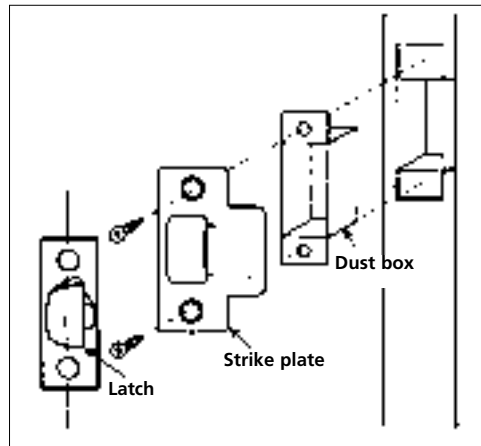

Figure 13
- 3) Place the strike plate on the dust box and, if necessary, draw a line around the strike and cut out enough material to make the strike plate flush with the door frame (see Figure 13).